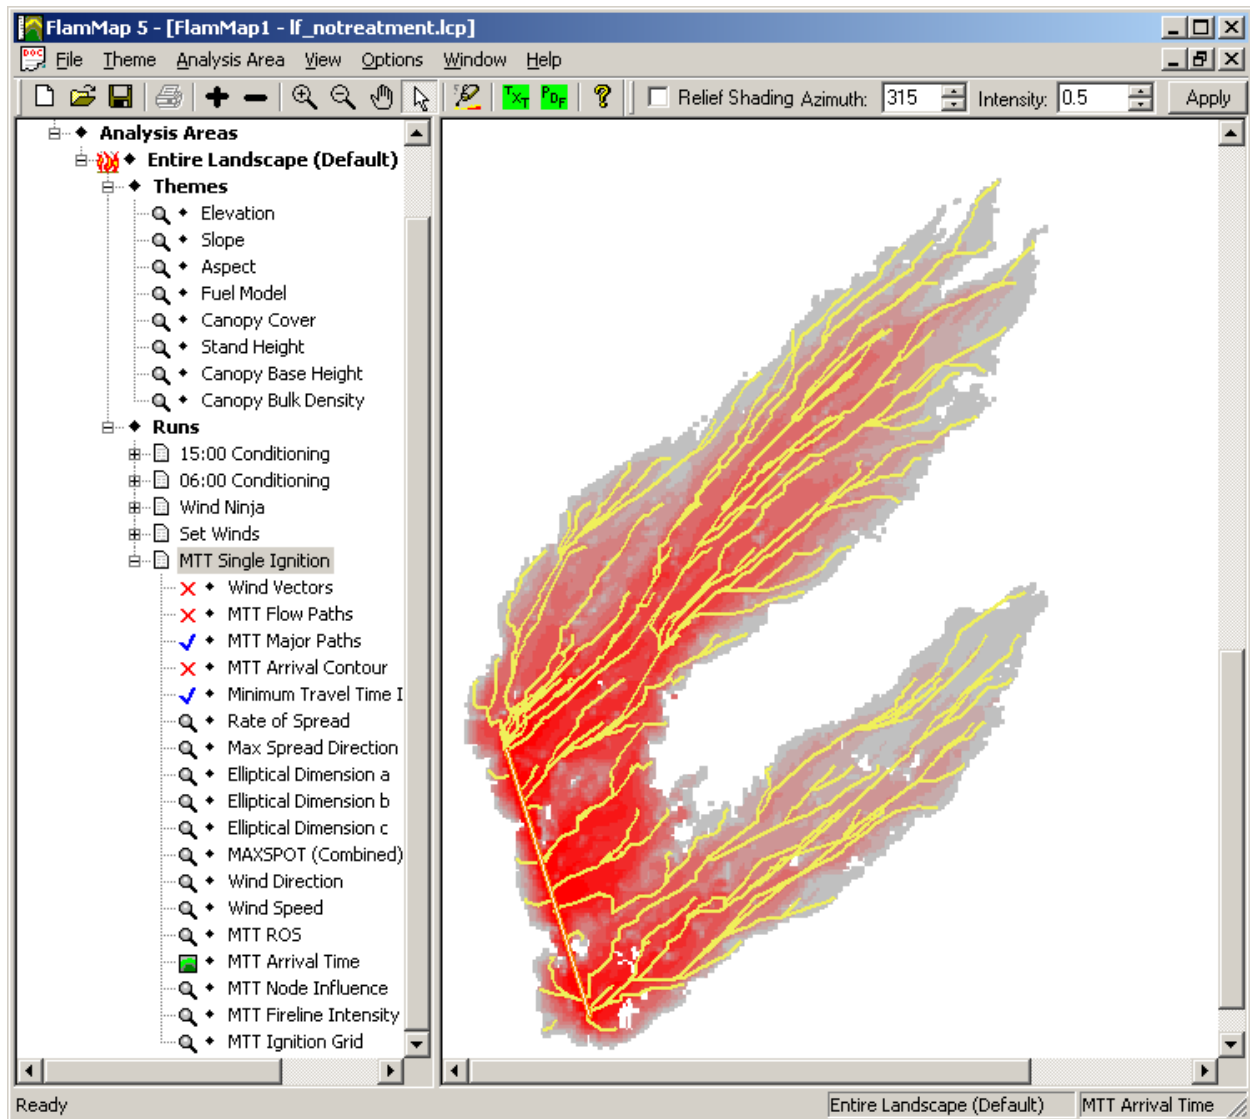

Figure 4-45—MTT fire arrival and major flow paths.
- 8) Under the Runs section, expand the MTT Single Ignition run in the tree pane. Zoom into the fire and display the MTT Major Flow Paths and Minimum Travel Time Ignition over the MTT Arrival Time (fig. 4-45).